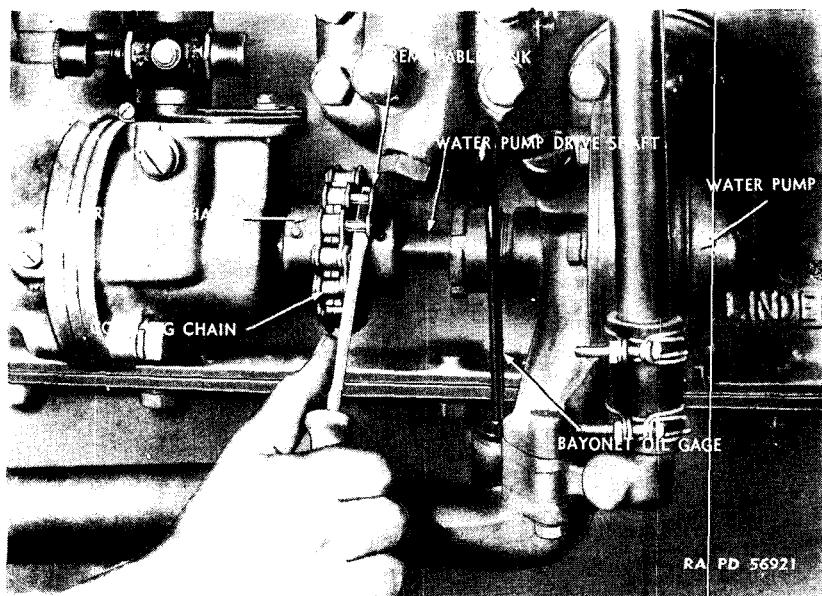

Figure 27—Removing Link from Accessory Drive Water Pump Shaft Coupling Chain
(1) DRAIN COOLING SYSTEM (par. 53 c(1)).
(2) REMOVE WATER PUMP ELBOW. Loosen clamp screw holding hose section to water pump elbow. Take out cap screws fitting water pump elbow to water pump.
(3) REMOVE BYPASS PIPE. Loosen clamp screws holding top and bottom hose sections to bypass pipe, and remove pipe.
(4) SEPARATE CONNECTION WITH ACCESSORY DRIVE. Separate coupling chain attaching pump drive to accessory drive by forcing out removable link (figs. 27 and 28).
(5) REMOVE PUMP. Take out cap screws and lock washers holding water pump and gasket to engine block.